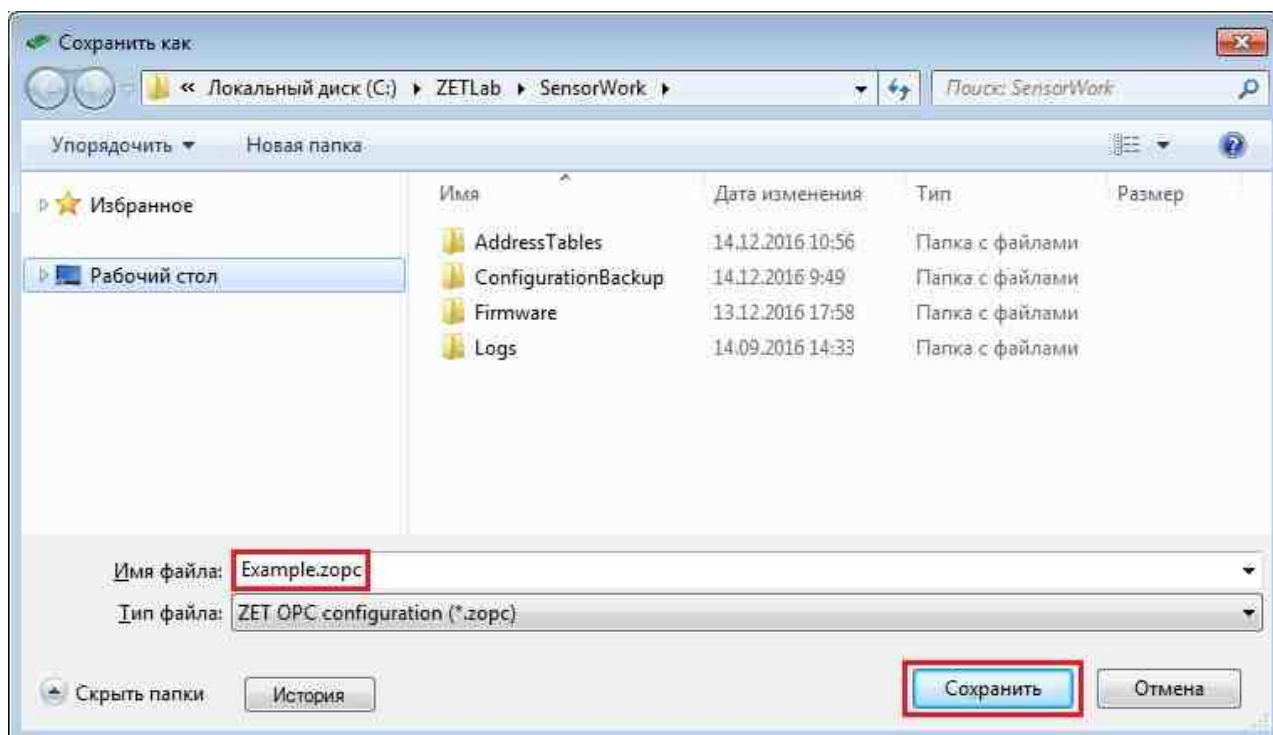

Fig.8.3 "Save as" window
3. In the "Save as" window that opens, in the "File name" field, set an arbitrary name for the configuration file and  activate the "Save" button (Fig.8.3). As a result, a configuration file with the extension ".zopc" will be created.